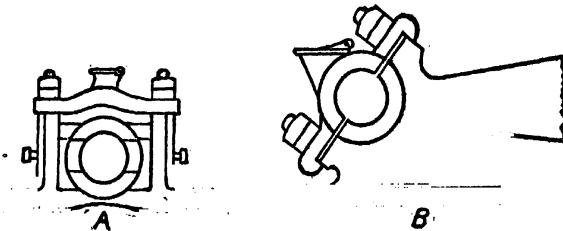

FIG. 44.—MAIN SHAFT BOXES.
**Main Bearing.**—These are the bearings which carry the crank shaft and therefore are made on a very heavy and substantial pattern. There are two different styles of bearings both of which are illustrated in Fig. 44. The "quarter box" A is not used to very great extent on modern engines unless they should be of small power and light construction. They have been succeeded by what is known as the "half-
The half box bearings B, Fig. 44, are cast in two pieces, the base and lower half being in one piece and the cap in another. The dividing line is at an angle of forty-five degrees so that the wear will not come at the joints of the bearings but instead will be on the cap and base. The bore of the box is cast somewhat larger than the shaft and the space thus provided is filled with high-grade babbitt metal.